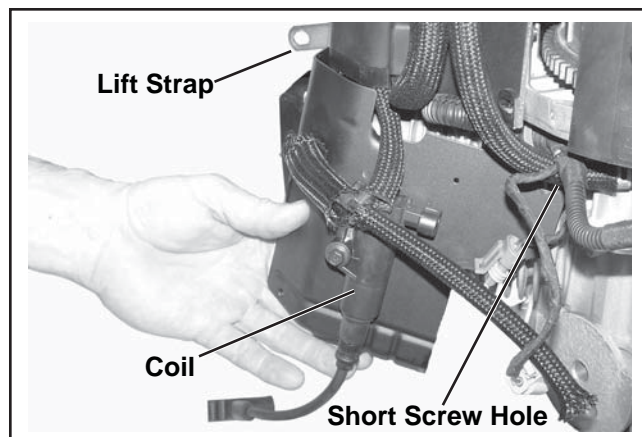

Figure 8-30. Note Location of Short Screws.
4. Remove the three (each side) hex flange screws securing the outer baffles. Note the location of any lifting strap and the position of the two short screws (one each side on bottom) for reassembly. See Figure 8-30. The coil and any hoses may remain attached to the baffle after being unplugged or disconnected.
5. Remove the outer baffles. See Figure 8-30.